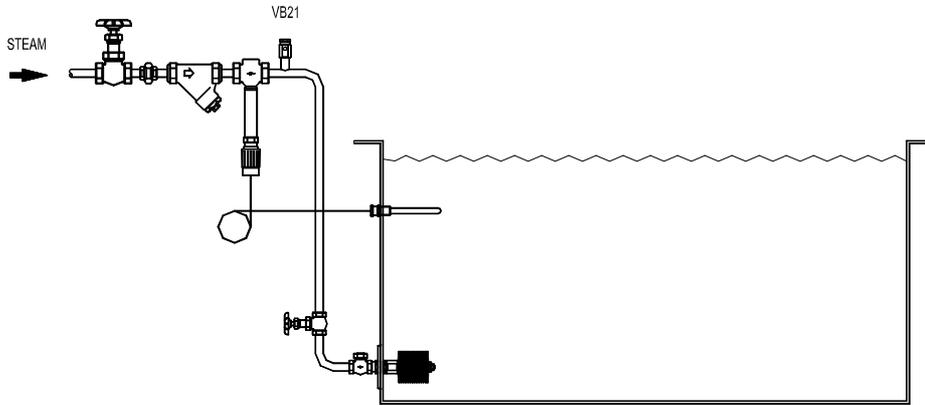
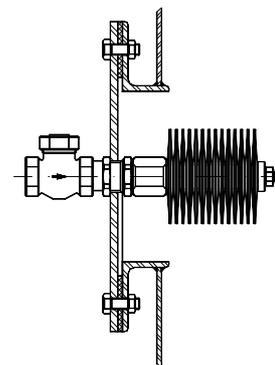
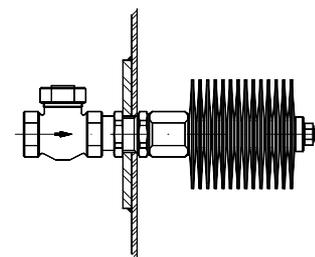

Fig.1
Fig.5
Fig.6
- The SI steam injector should be fitted as low as possible in the tank and always below the level of the thermostat controller. If the inside of the tank is accessible, a bulkhead fitting can be used (Fig. 5). A stiffener plate should be welded to the tank wall to carry the bulkhead fitting. If the inside of the tank is inaccessible, the heater should be fitted by means of a flange (Fig. 6). A vacuum breaker (VB21) must be fitted between the injector and the control valve. Where steam supply pipe is below the level of the liquid in the tank (Fig. 1), a non return valve must be fitted between the injector and the control valve to prevent the contents of the tank flowing back through the valve and back up the steam supply pipe when the steam supply is turned off. A stop valve should also be fitted between the injector and the non return valve to enable maintenance work to be done on both the control valve and non return valve.